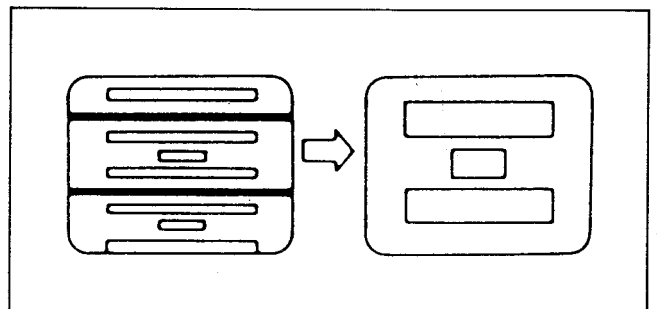

Fig. E2
- (1) Aim the camera at the gray scale chart.
- (2) Adjust the vertical size(VR801) so that the vertical size is correct and the picture does not roll as shown in Fig.E2.